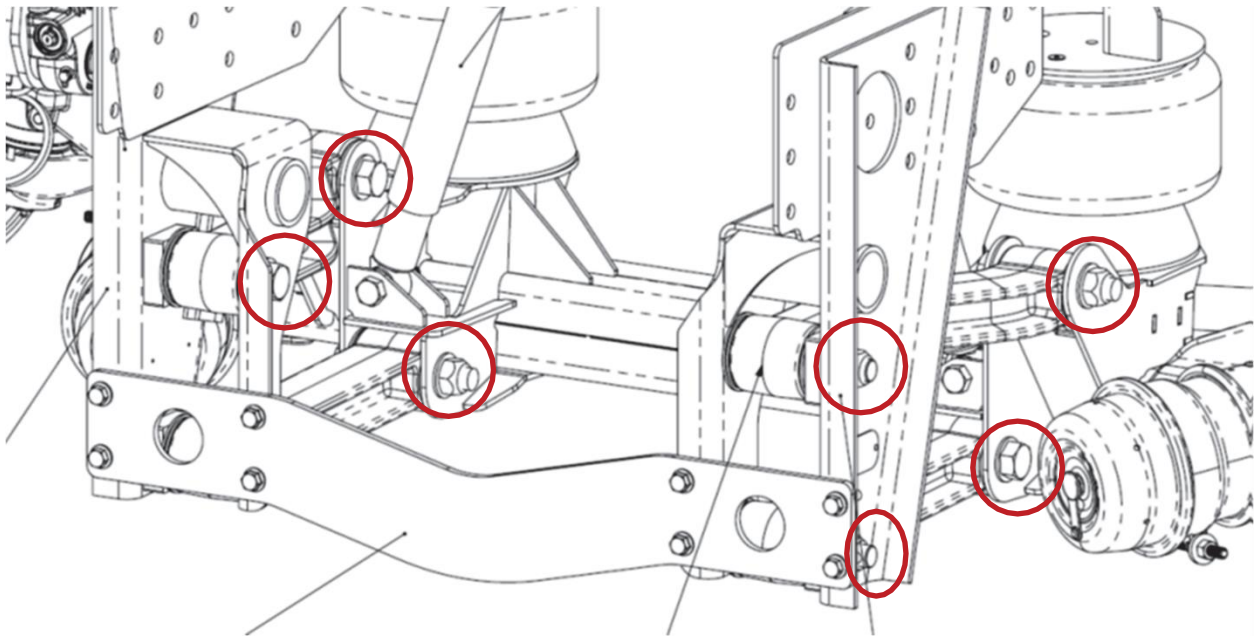

Figure 1
1. Referring to Figure 1, from the nut side of the eight {8} fasteners, torque the fastener to 700 lbs ft, +/- 25 lbs ft.